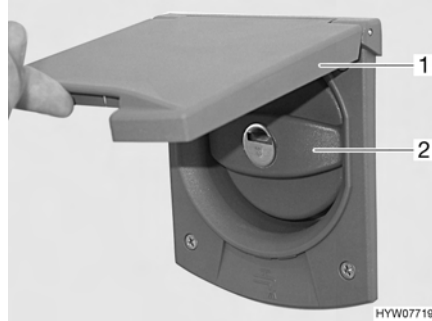

Fig. 87 Cap for the drinking water filler neck
- Move external flap (Fig. 87,1) upwards (see chapter 6).
- Remove cap (Fig. 87,2) (see chapter 6).